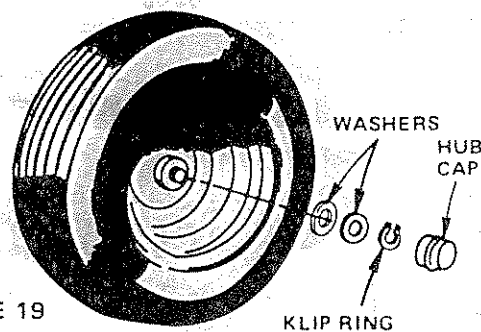

FIGURE 19
- Removing front wheel for tire repair (Fig. 19).